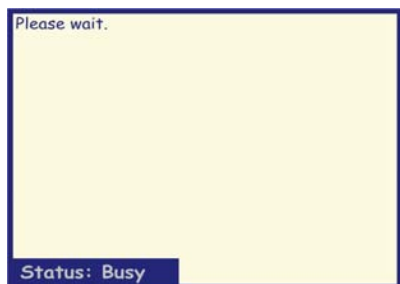

Figure 3. “BUSY” status.
2. Upon completion of the P.O.S.T., the Triton splash screen is displayed for approximately 30 seconds (Figure 2). The splash screen is then replaced by the “Status Busy” display for the duration of the ATM initialization (Figure 3).